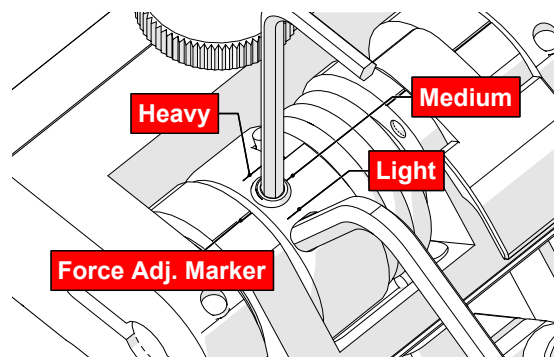

Fig. 50 - Choose desired tension
6. Gently apply pressure on the long leg of the 3 mm hex wrench until the force adjustment marker lines up with the desired spring tension. While keeping the markers in line, tighten the force adjustment screw (Fig. 50).